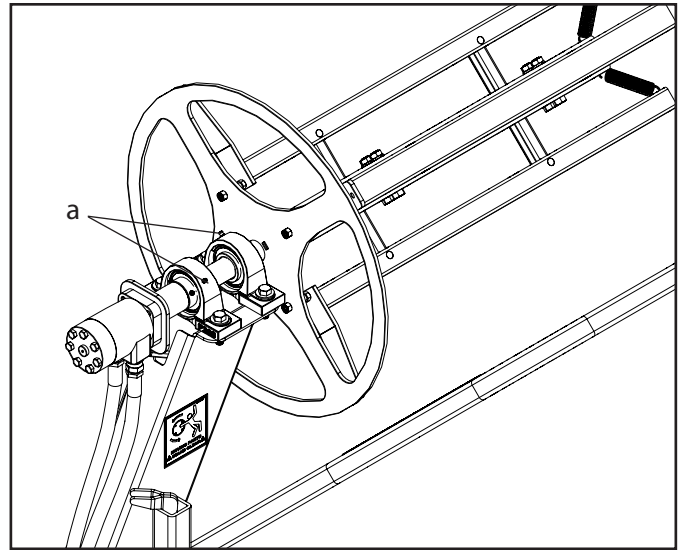

Figure 11: Shaft bearing grease zerks
3. The two shaft bearings (a) on each reel should be greased every 50 hours, or once per season of operation (Figure 11).